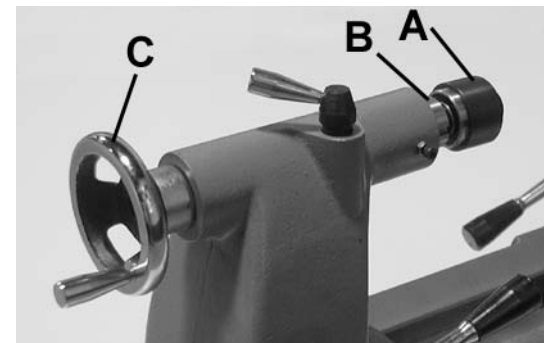

FIGURE 8
The live center (A) Fig.8 supplied with your wood lathe is designed to be fitted into the tapered tailstock quill (B). The live center can be fitted by hand but first make sure the live center shank and quill hole are perfectly clean. It is recommended to use a solvent and a clean cloth to clean the shank and spindle hole.